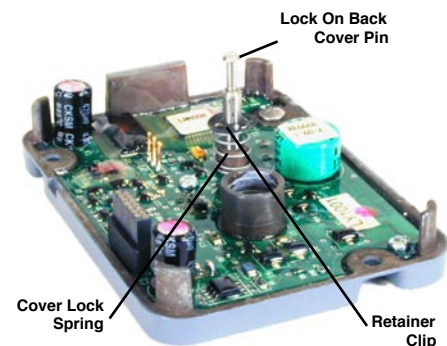

Figure 7 - Back Cover Assembly
10. Install the enclosed cover lock spring and retainer clip onto the cover lock pin. The "fingers" of the retainer clip should be angled away from the cover lock spring, and the retainer clip must be seated in the groove of the cover lock pin. (See Figure 7.)